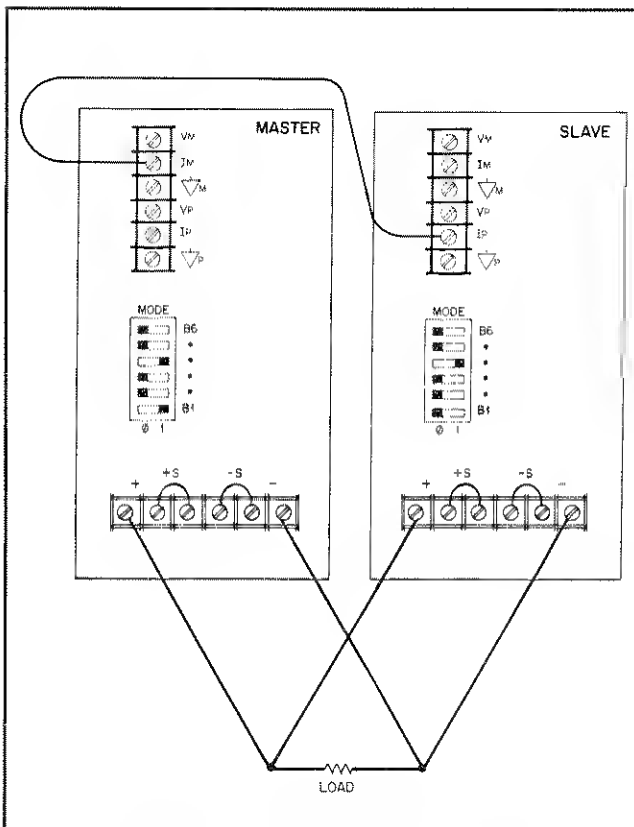

Figure 3-14. Auto-Parallel Operation
**3-212** Figure 3-14 shows the rear-panel MODE switch settings and terminal connections for auto-parallel operation. This configuration provides 0 to 60 Vdc at an output current of up to 20 Adc.